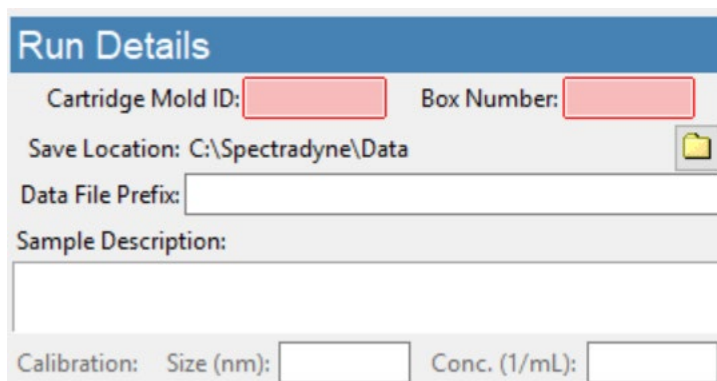

Figure 1. Screenshot of “Run Details” section of Spectradyne nCS1 experiment software. These items are filled out prior to the sample run.
- 4.7.1 The software has various “run details” that should be filled out before priming the cartridge and beginning sample analysis. Most are required to be filled out before the software will permit you to begin the priming process. A screenshot is shown in Figure 1.